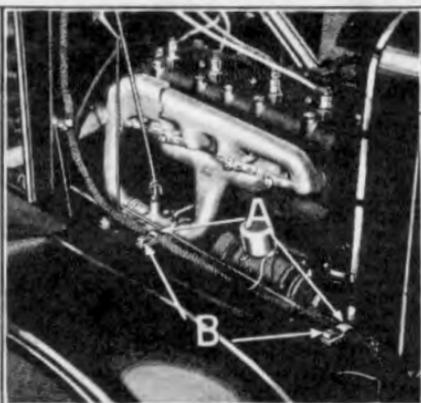

Fig. 109
- (c) Insert the two fender apron to frame bolts through frame and fender, slipping loom supports over ends of bolts (See "A" Fig. 109) and running down fender apron to frame bolt nuts "B" on ends of bolts.